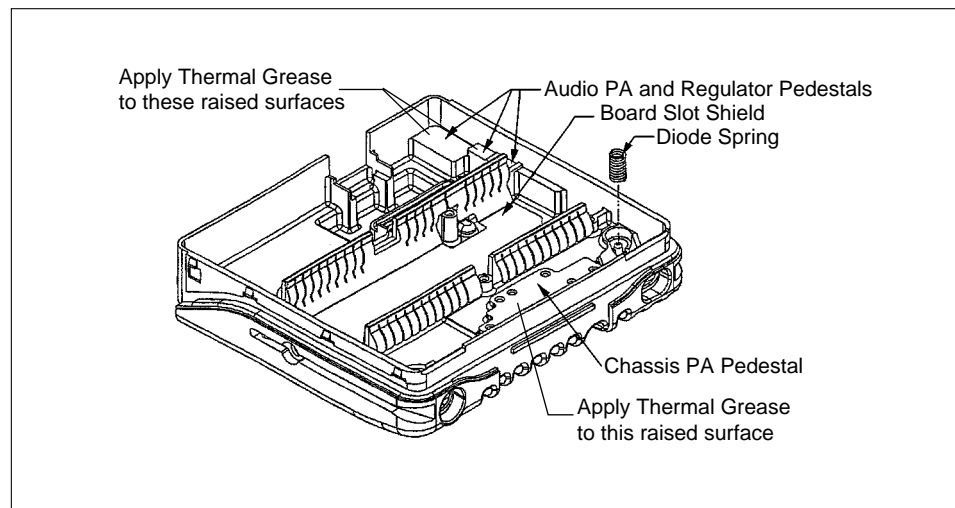

Figure 5-16 Reassembly
1. Inspect and reapply thermal grease as needed to the areas shown in Figure 5-16.